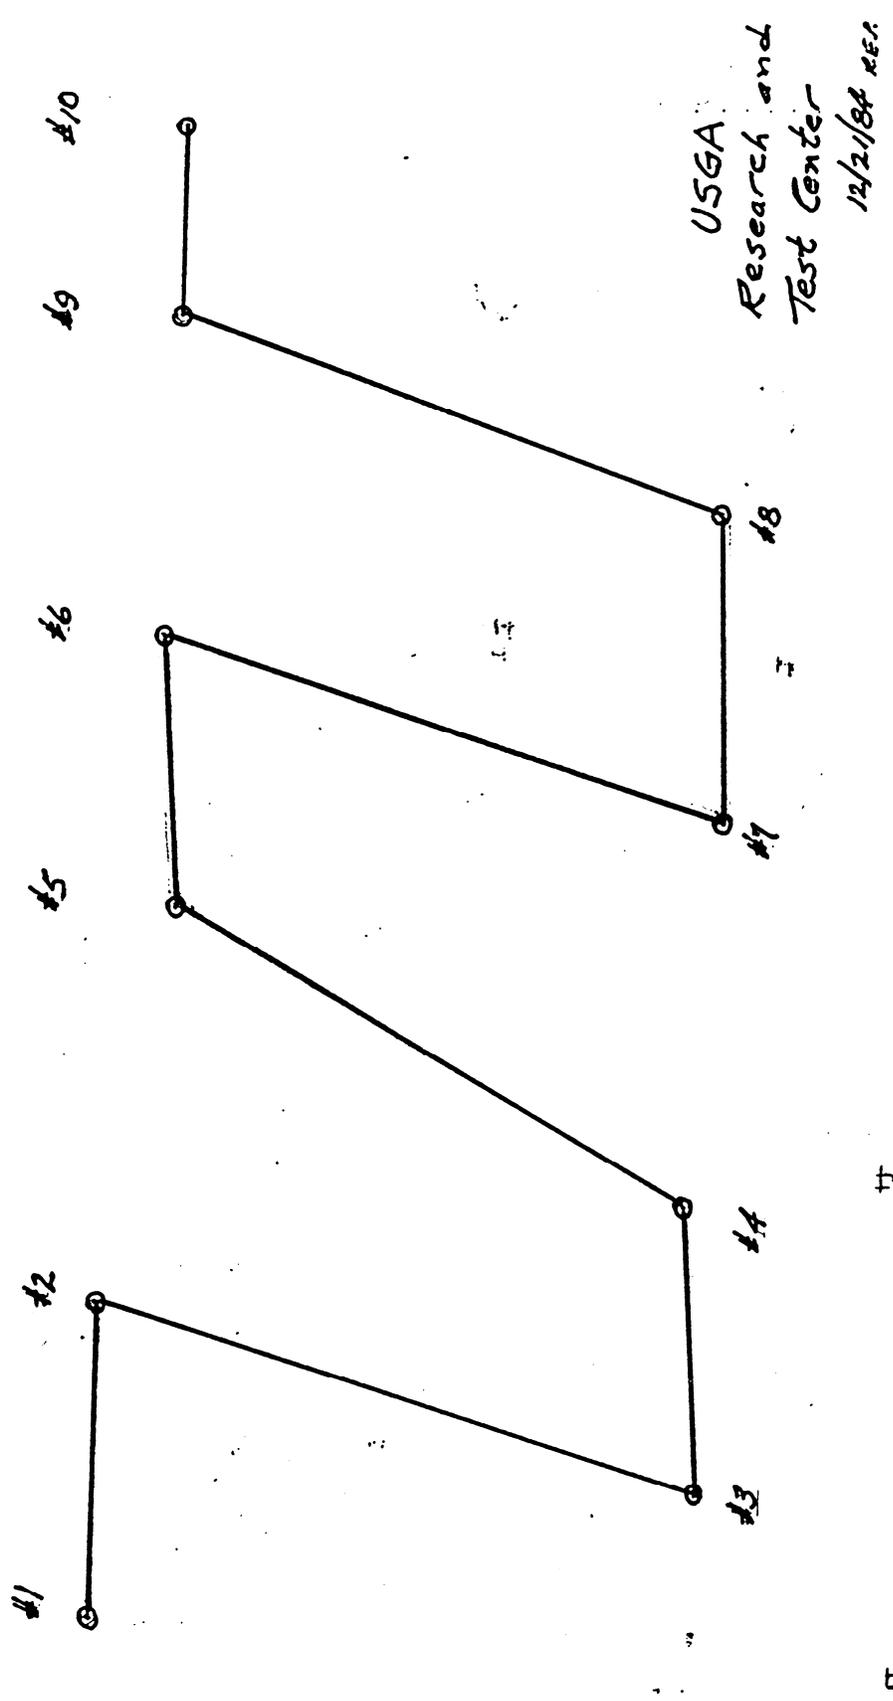

FIGURE 3 - Ball Track
- 5.2 *Insulated ring gauge*, shown in Figure 3.